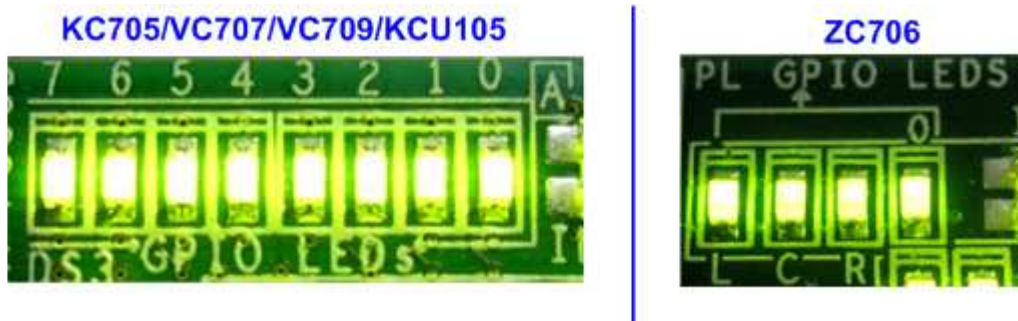

Figure 2-7 LED status after system set up complete on FPGA board
- After FPGA start operation, check GPIO LEDs status on FPGA board at LED0-LED7 (For ZC706, check LEDL-LED0). All LEDs must be ON, as shown in Figure 2-7. Each LED description is described as follows.